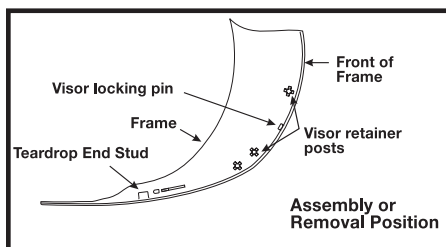

Figure 1
2. Connect the 2 outside holes on the visor to the 2 teardrop shaped end studs on the visor frame. (See figure 1)